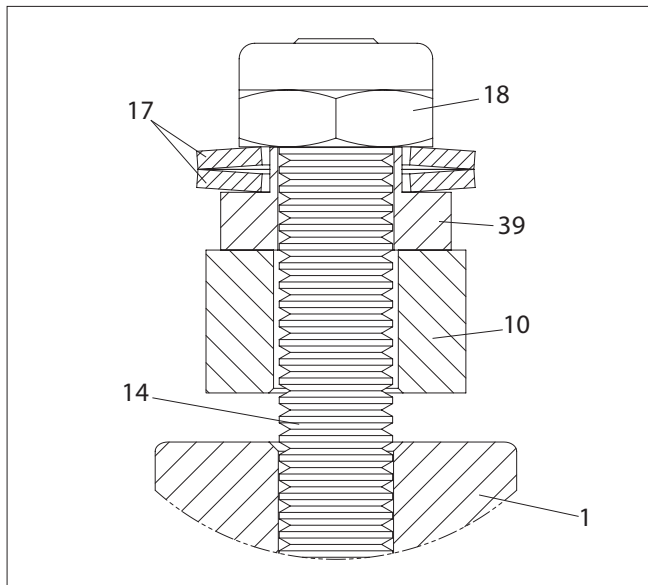
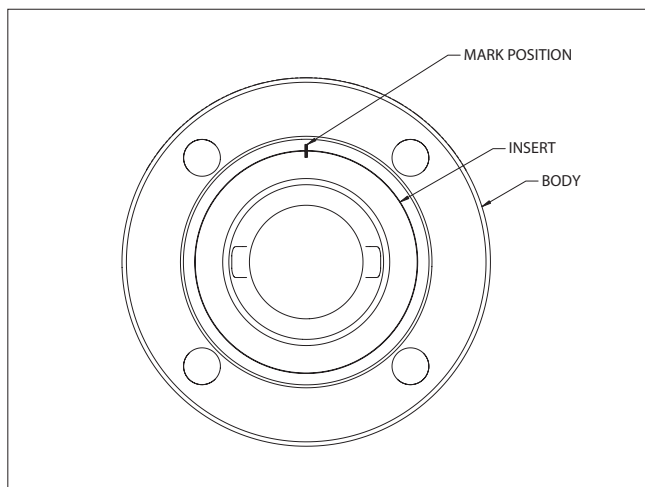

Figure 5.
Figure 6.
9. Place the stop bushings (39) and disc springs (17) over the studs (14) as shown in **Figure 5**. Disc spring and stop bushing orientation shall be as shown in **Figure 5** and **9**.
10. Place the stud nuts (18) on the studs (14).
11. While pressing the stem (5) outward from inside the body, tighten stud nuts (18) to the torque shown in **(Table 1)**. Apply torque evenly, alternating between the two nuts so that the compression plate will be parallel with the valve body. Rotate the stem gently to assure proper seating.
12. Make sure there is no dirt and grit in the insert (2) threads. Apply a lubricant compatible with the flowing media to the threads and screw the insert (2) into the body (1) by hand until it is fully seated. Mark the position as shown in **(Figure 6)**. Counting the number of turns, remove the insert.